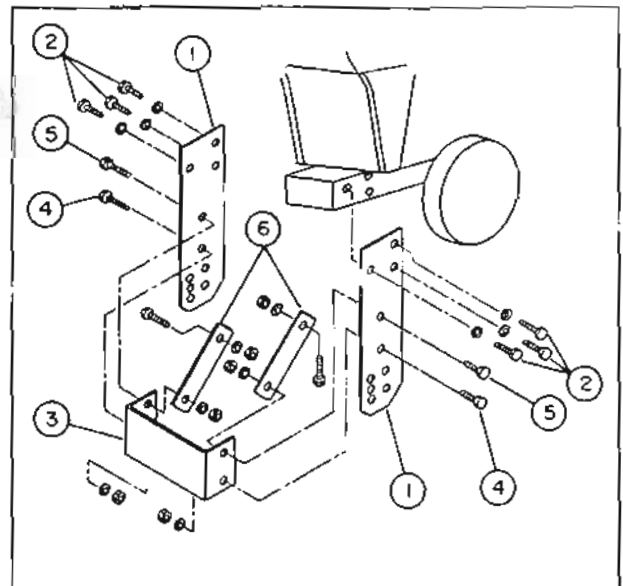

FIGURE 2
- c) At front end of tractor frame, install a front support bracket (fig.2, item 1) on each side using three 12mm x 30mm bolts (fig.2, item 2) and lockwashers for each bracket. Do not tighten.
- d) Install U-shaped bracket (fig.2, item 3) between front support brackets using two $1/2"$ x $1\ 1/2"$ bolts (fig.2, item 4), lockwashers and nuts in lower hole positions. Secure upper section according to your tractor model as follows:
- **B1550 & B1750:** Use two $1/2"$ x 2" bolts (fig.2, item 5), lockwashers and nuts in upper hole placing one end of support brace (fig.2, item 6) on inside. Secure other end of support braces inside tractor frame using two 12mm x 35mm bolts, lockwashers and nuts. Do not tighten.
- **B7100:** Use two $1/2"$ x 2" bolts (fig.2, item 5), lockwashers and nuts without support braces (fig.2, item 6).